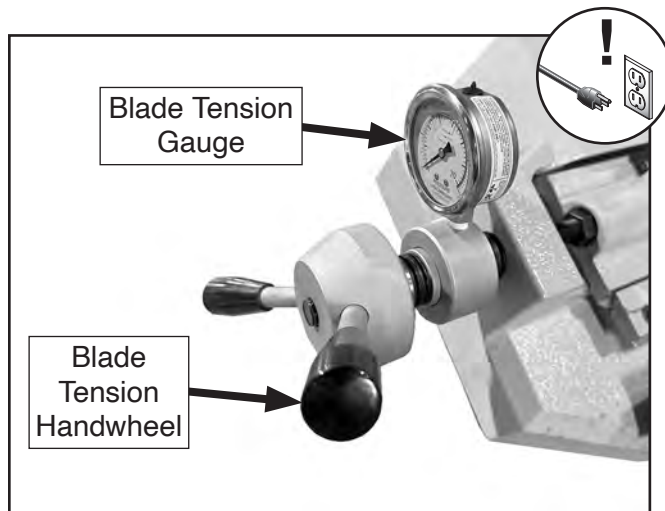

Figure 37. Location of the blade tension handwheel and gauge.
3. Adjust the blade tension handwheel (see **Figure 37**) until the indicator on the blade tension gauge indicates the desired tension. Turn the handwheel clockwise to tighten the blade or counterclockwise to loosen the blade.